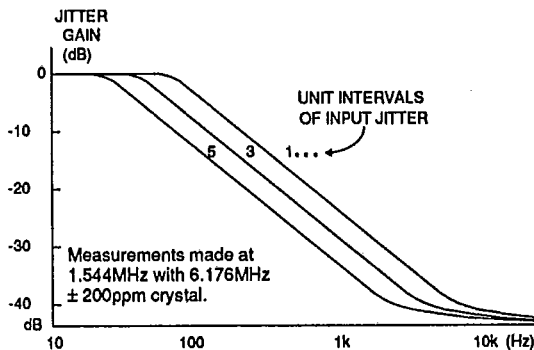
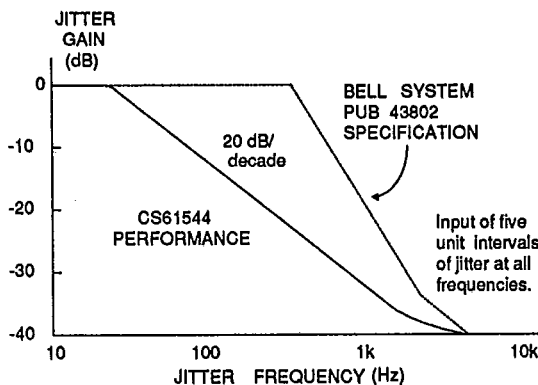

Figure 5 - CS61544 Jitter Attenuation Curves
Figure 6 - Jitter Attenuation Characteristics
- Crystal pull range: ± 200 ppm. Five unit intervals of input jitter. Slope above corner frequency is -20dB/decade . See Figure 5.
The 61544 will tolerate and attenuate at least seven unit intervals of jitter (peak-to-peak) from a T1 signal. Figure 5 shows a family of curves which show the jitter attenuation achieved by the 61544. Each curve shows the jitter attenuation for a signal with constant jitter amplitude over a range of jitter frequencies. The more jitter a signal has, the more the jitter is attenuated. The jitter attenuator on the transmitter side meets the jitter attenuation and input tolerance specifications of AT&T Publication 43802, as shown in Figures 6 and 7.